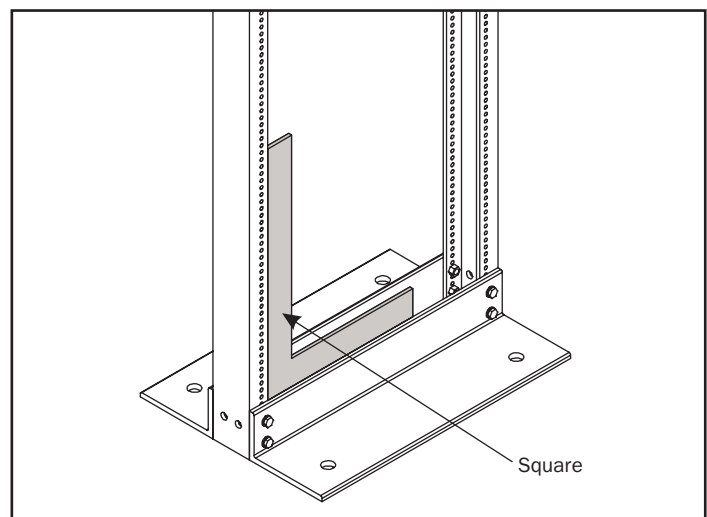

Figure 3 - Step #3
- Stand rack upright and ensure vertical channel and base form 90° angle as shown in Figure 3.